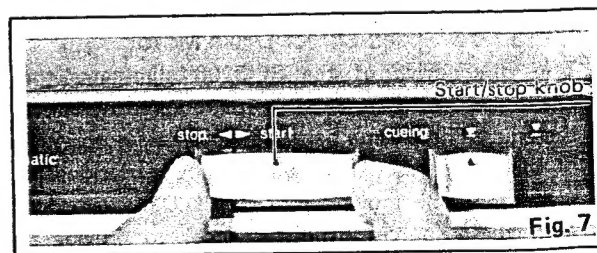

Fig. 7
3. Set the start/stop knob to the "start" position. (See Fig. 7.)